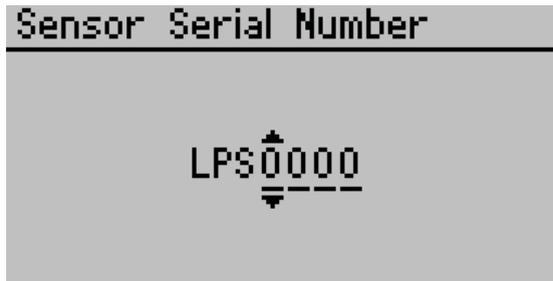

Figure 47 Enter sensor head serial number
9. Enter the sensor head serial number (found on the sensor head cable tag) by pressing the **UP** or **DOWN** keys and pressing **ENTER** after each digit (Figure 47).